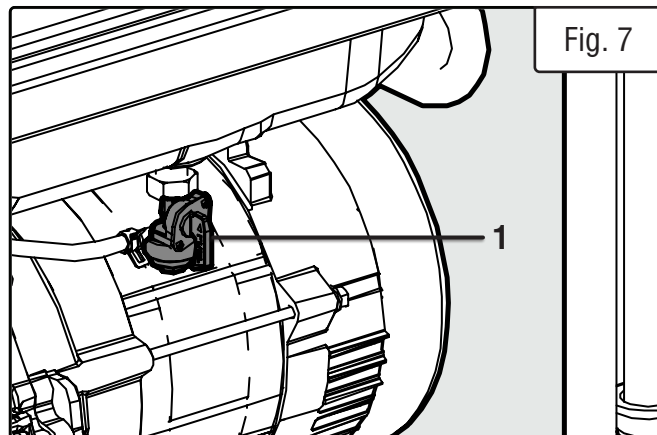

Fig. 7
1. Turn the fuel valve (Fig. 7 - 1) to ON.